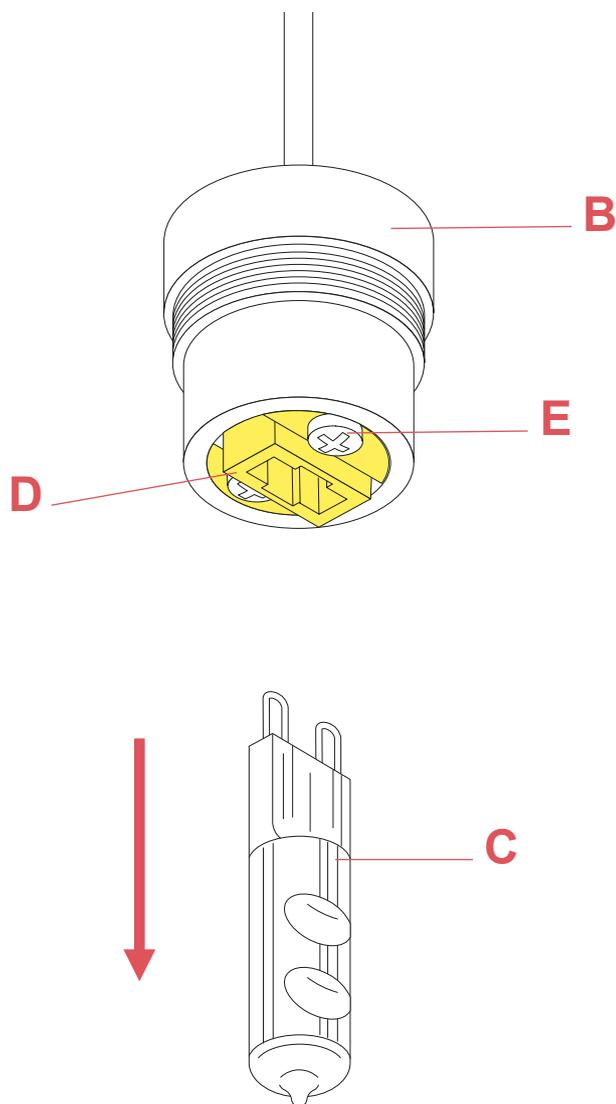

Fig.2
Install the lamp-bulb (C).(Fig.2 page 10)